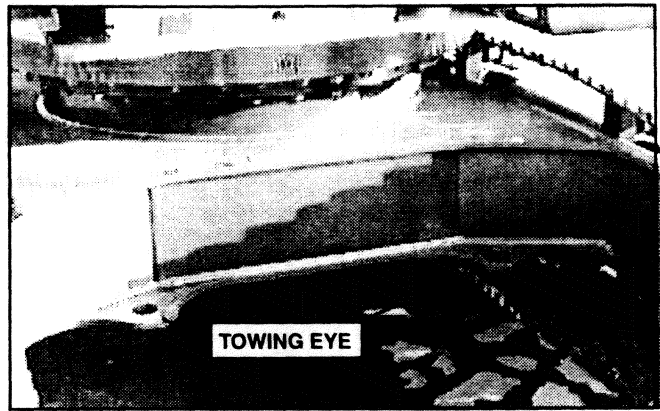

FIGURE 4.139
1. If the machine should become stuck in soft soil areas it may be necessary to tow the machine. Attach a wire rope or chain with the capacity to pull the machine out to the lower frame eye. See Figure 4.139.